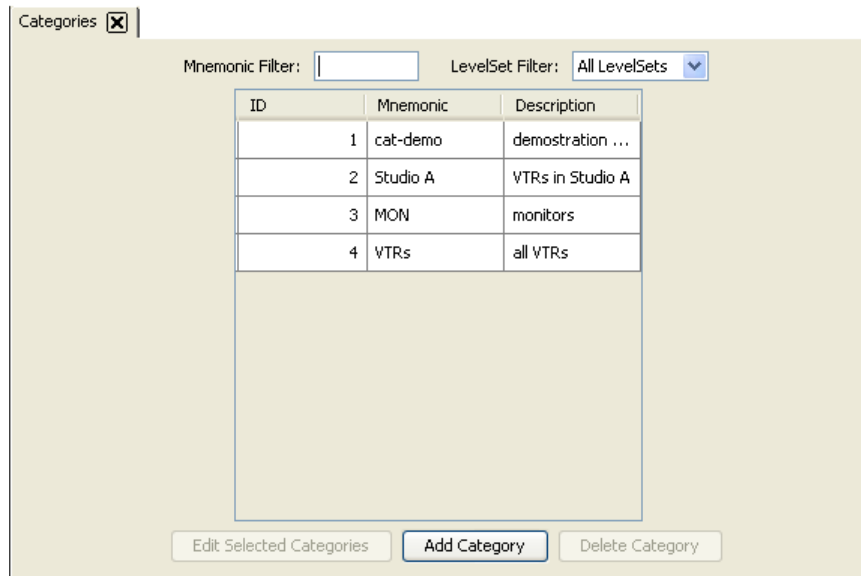

Figure 10-11. Categories Page
- 1 From the Navigation area, select the 'Configuration' pane and then 'Categories'. The 'Categories' page appears, as shown in Figure 10-11.